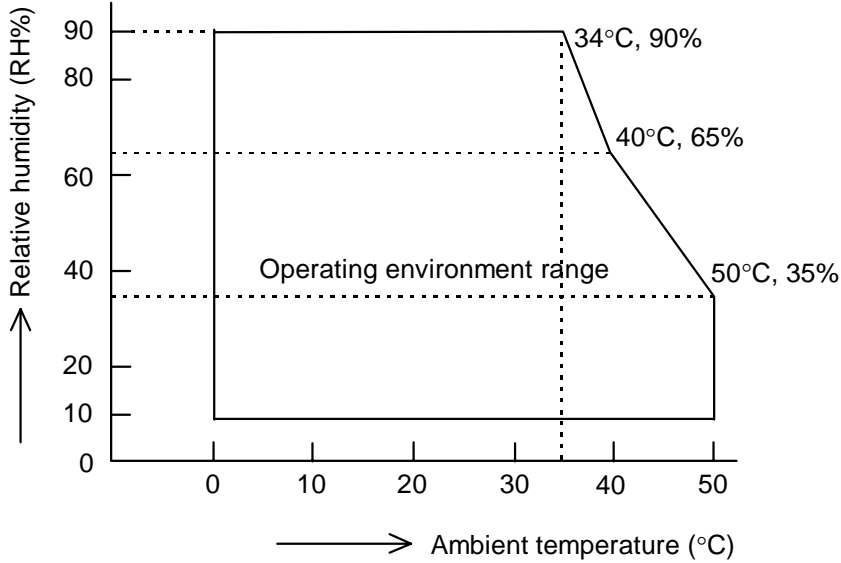

Figure 1.13.1 Operating Temperature and Humidity Range
- During operation: 0 to 50°C {41 to 122°F}. (At 34°C {93°F} or higher, there are humidity restrictions; refer to Figure 1.13.1.)